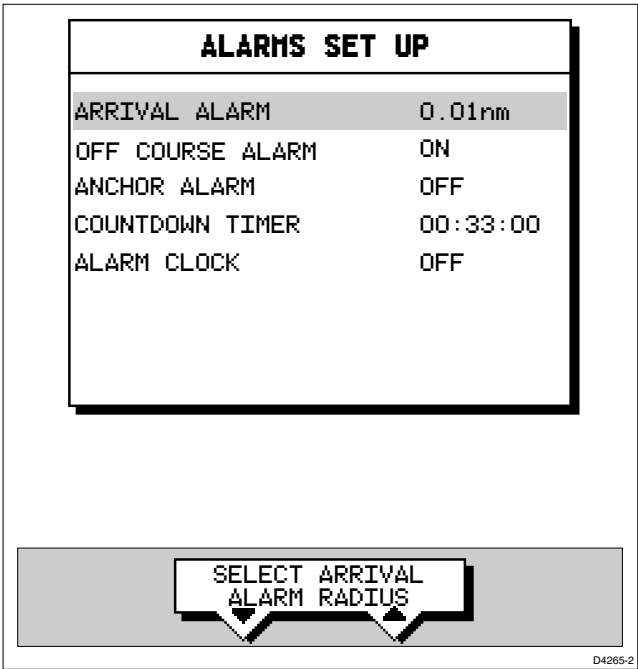

Figure 6-2: Alarms Set Up List
1. Press the **ALARMS** key. The Alarms Set Up menu is displayed, showing the current settings (see *Figure 6-2*).